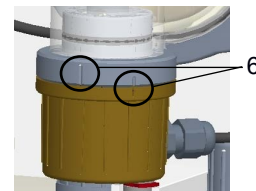
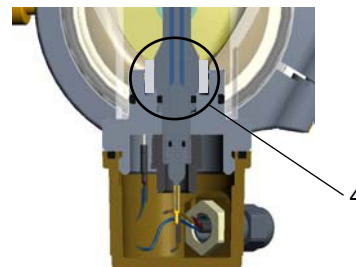

Fig. 14 Section, cap
Fig. 15 Section, installation position of felt ring
- 1 Carefully unscrew and remove the knurled nut (1).
- 2 Unscrew the cap (5) by turning it to the left as far as the marker (see Abb. 14). Take care not to disconnect the signal cable!
- 3 Carefully take the complete electrode mount (2) out of the cell body (3) in downward direction.
- 4 Remove the felt ring (4) between electrolyte storage tank and electrode (see Abb. 15).
- 5 Reinstall the complete electrode mount (3) in the cell body (4). To do this, carefully insert the complete electrode mount (2) from below.
- 6 Screw the cap (5) on again by turning it to the right as far as the marker (see Abb. 14).
- 7 Screw the knurled nut (1) back onto the complete electrode mount (2) by hand.